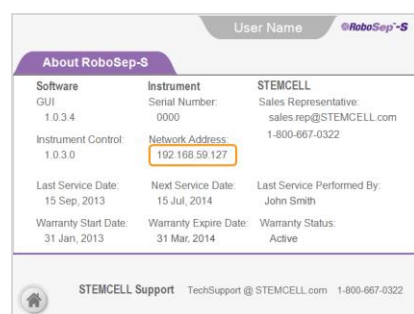

Figure 11. The Help Screen
3. Note the Network address (IP address) that appears on the Help screen (Figure 11).